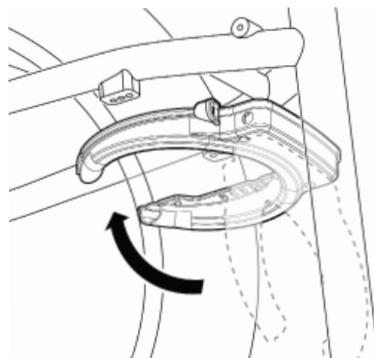

Figure 5: Install the lock; frame mount position #1
4. **Position the lock.** Place the lock into position against the bike frame, according to your bike model (Figure 5 and Figure 7). Make sure the lock mounts sit flat against the frame mounts. RadRunner 2 owners, see notice on Page 3.